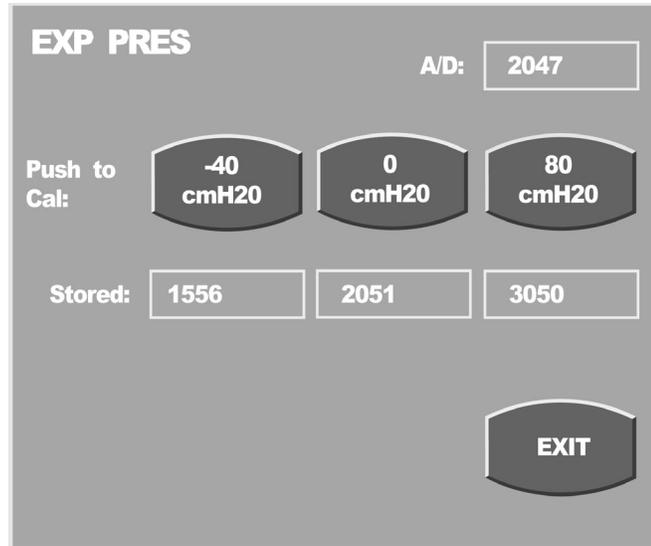

Figure 7.13 Expiratory Pressure calibration screen
1. From the Calibration Screen, press EXP PRES to access the calibration screen. See figure 7.13.